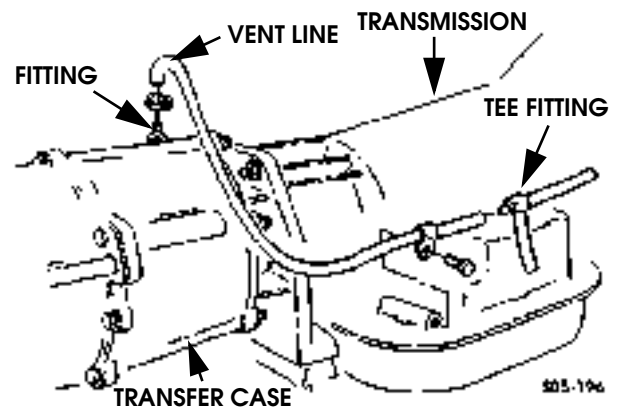

Figure 5-72: Transfer Case Vent Line Routing
1. Loosen clamp and remove vent line from fitting on rear of transfer case (Figure 5-72).
5. Disconnect vent line from transfer case (Figure 5-72).